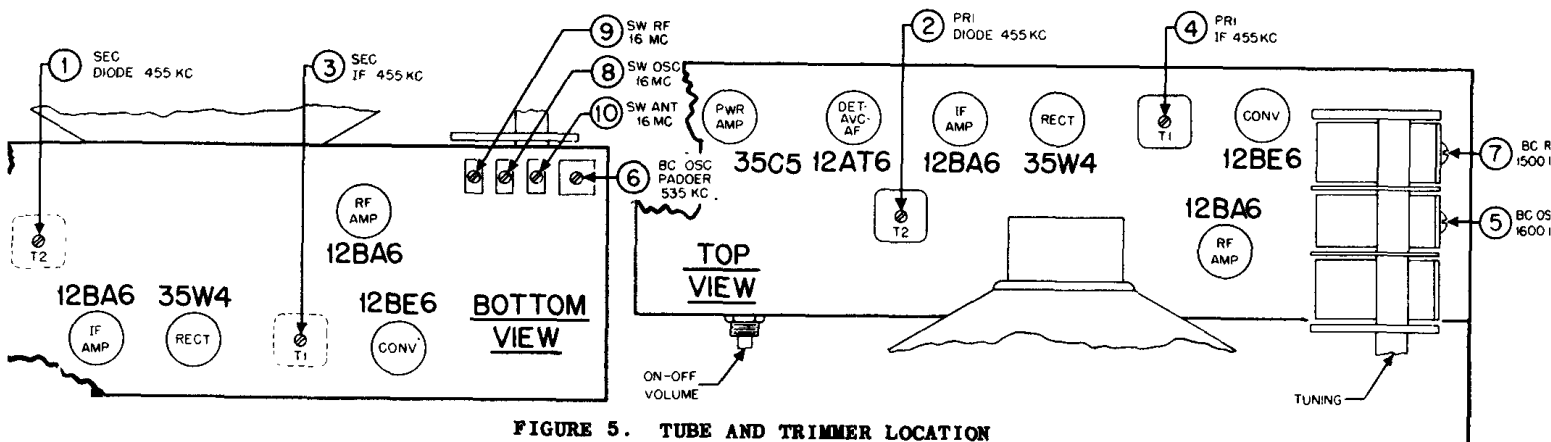

FIGURE 5. TUBE AND TRIMMER LOCATION
7. See Figure 5 for adjustment locations and the following chart for procedure. NOTE: The BC band must be aligned before SW. If the BC trimmers are adjusted, the SW must also be realigned.